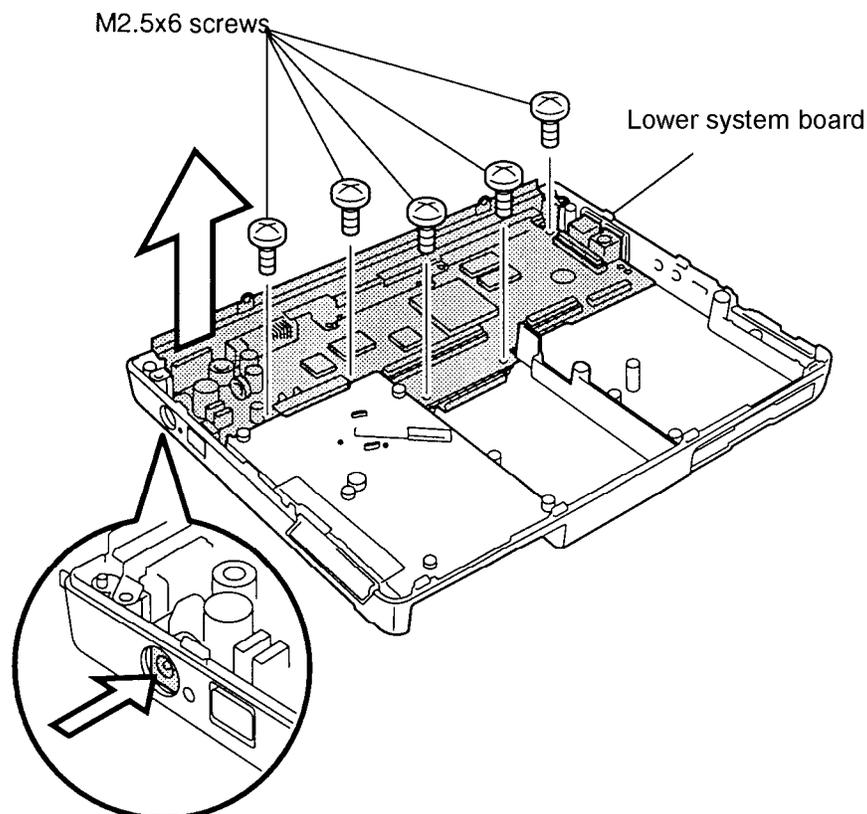

Figure 4-27 Removing the lower system board
To remove the T2400CS/T2400CT's system board, follow the steps below and refer to figure 4-27.
3. Remove the five M2.5x6 screws on the system board (figure 4-27).
4. Lift the right side of the system board which will release the DC IN jack from the bottom cover, then lift up the system board (figure 4-27).
To install the T2400CS/T2400CT's lower system board, follow the steps below and refer to figure 4-27.
1. Place the system board on the bottom cover, and secure the five M2.5x6 screws on the system board (figure 4-27).